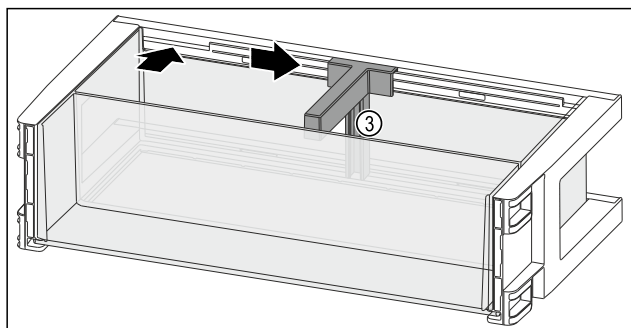

Fig. 144
- ▶ Insert the bottle holder *Fig. 144 (3)* into the recess.
- ▶ Push the bottle holder *Fig. 144 (3)* to the side into the desired position.